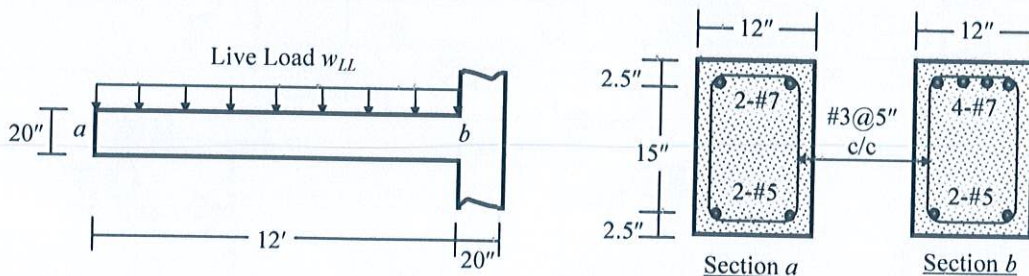

Fig. 6
10. For the cantilever beam ab shown in Fig. 6, use the WSD to